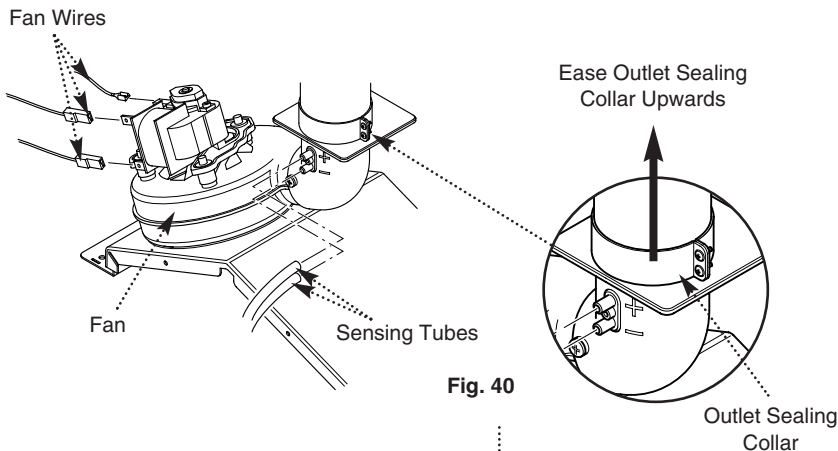

Fig. 40
8. Note the positions of the two sensing tubes on the outlet elbow and three wires on the fan motor and remove them (Fig. 40).
9. Slacken the screws on the outlet sealing collar. Ease the collar upwards as far as possible (Fig. 40).